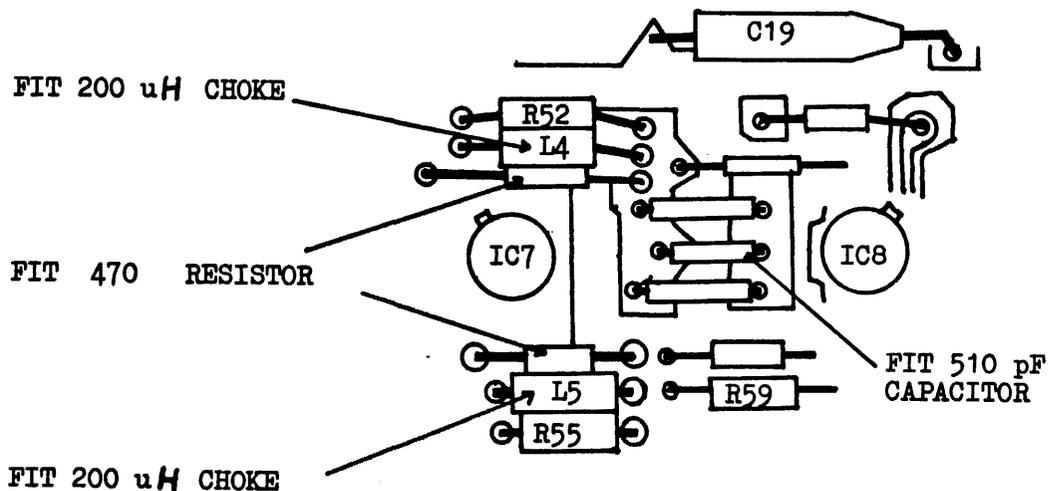

FIGURE 2.
4. Fit two 470 Ω resistors (P/N 1876 5008) as shown in Figure 2.
5. Fit two 200 μ H Chokes (P/N 1103 0046) as shown in Figure 2.